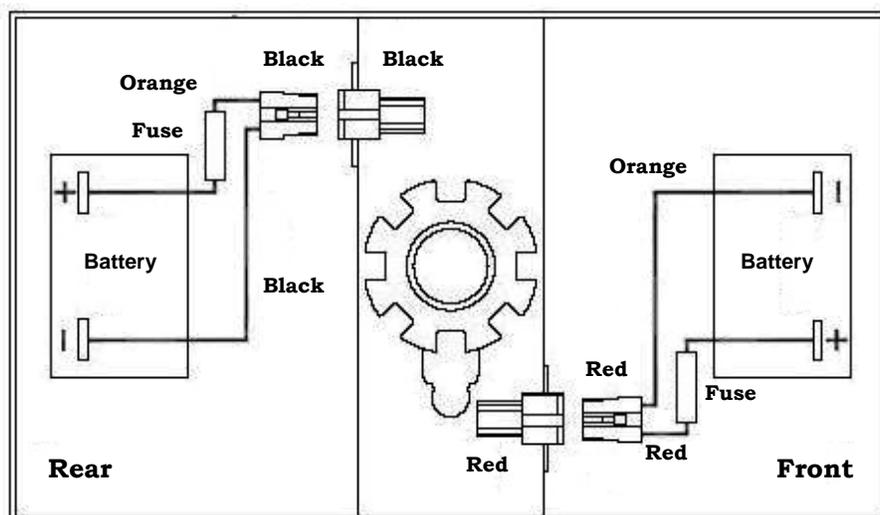
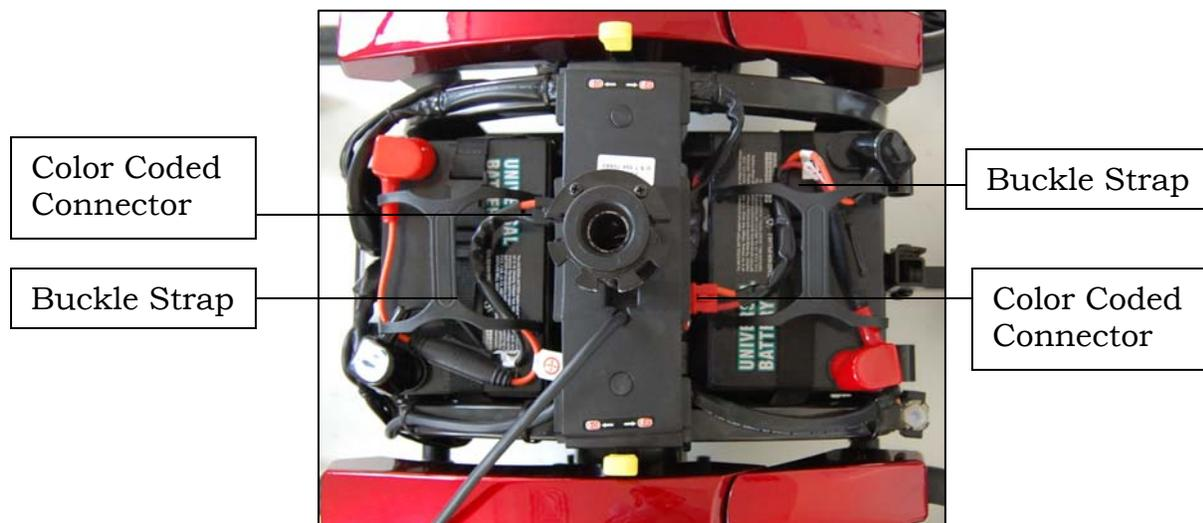

Figure 7
Figure 10
2. Make sure both battery harnesses are plugged into the power chair and locked. See figure 7 on page 15, and figure 10 on page 16.
NOTICE There is a “Battery Connection Diagram” located on the inside of the rear battery cover. See figure 7.
3. Place the batteries into the battery tray. Be certain the color coded connectors match. Refer to the "Battery Connection Diagram" shown in figure 7 on page 15.
4. Secure the batteries in place using the buckle straps. See figure 10.
5. Connect each color coded battery cable connector to the corresponding connector on the base unit. See figure 10.